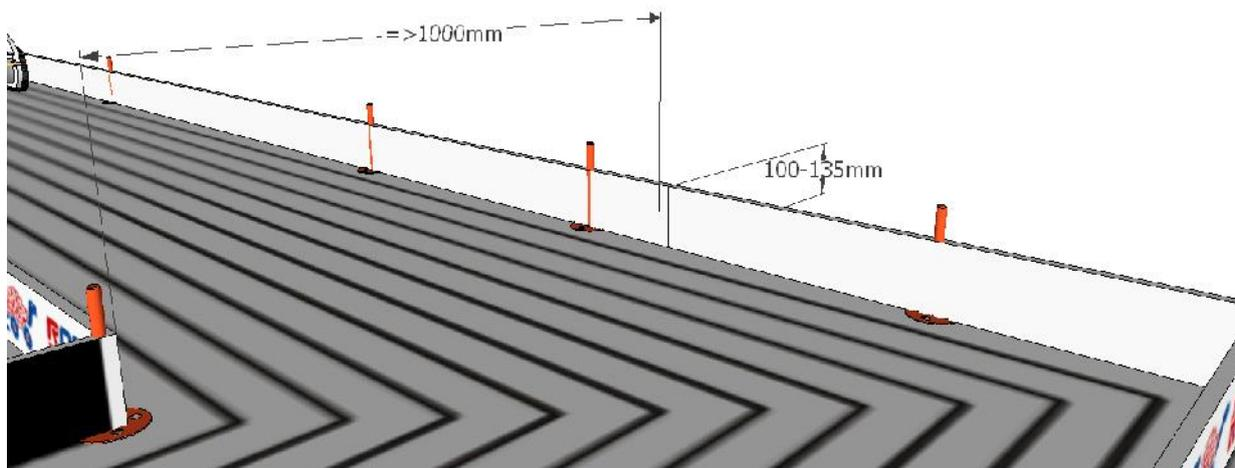

Figure 3. – The track width and track side height.
- the sides of the track are situated at the edges and should be white, the height 100...135mm (Figure 3);